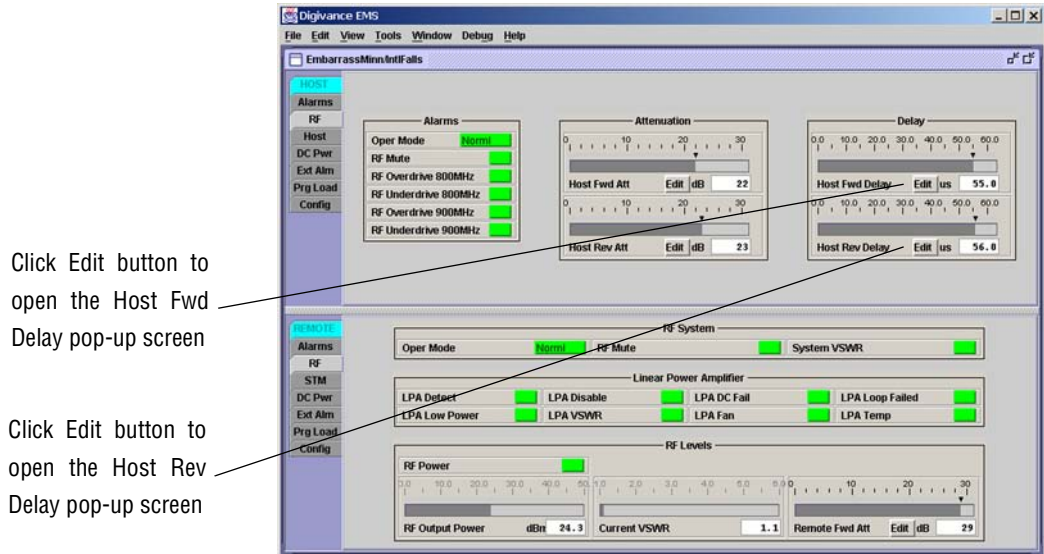

Figure 3-13. Typical HOST RF Display
1. Click on the **HOST RF** tab. The **HOST RF** display will open within the EMS main window as shown in Figure 3-13.
2. Click on the **Host Fwd Delay** field **Edit** button (see Figure 3-13). The **Host Fwd Delay** pop-up screen will open as shown in Figure 3-14.
5. Repeat the process for reverse delay by right-clicking on the appropriate delay section (see Figure 3-13) and then entering the required delay value in the pop-up screen.